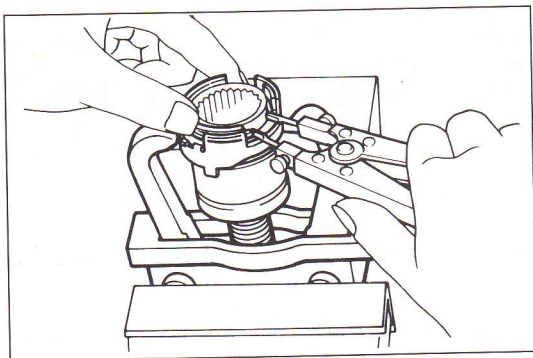

Fig. 4-15. Snap ring that holds cams to inner hub being removed. Notice puller used to compress cams against spring tension.
- Use a puller attached to the inner and outer cams to compress the cams against the tension of the return spring (Fig. 4-15). Remove the snap ring as shown, and then release the puller and remove the inner and outer cams as a unit. Remove the cam follower and the return spring.
8. Install the return spring on the inner hub, and place the cam follower atop it. Then install the assembled cams atop the cam follower, and hand-press them onto the inner hub against the tension of the spring. While keeping the spring compressed, swing the puller's claws into position atop the cam follower's tabs in order to keep the spring compressed. Install the snap ring as shown previously in Fig. 4-15.